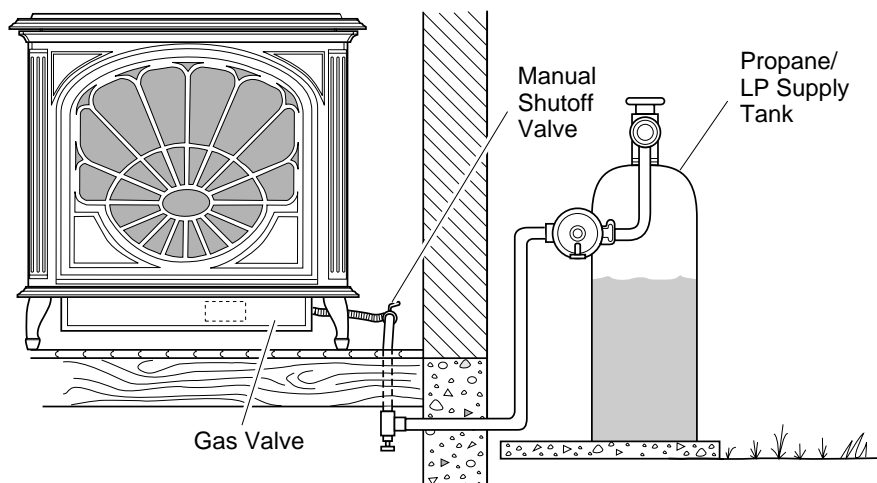
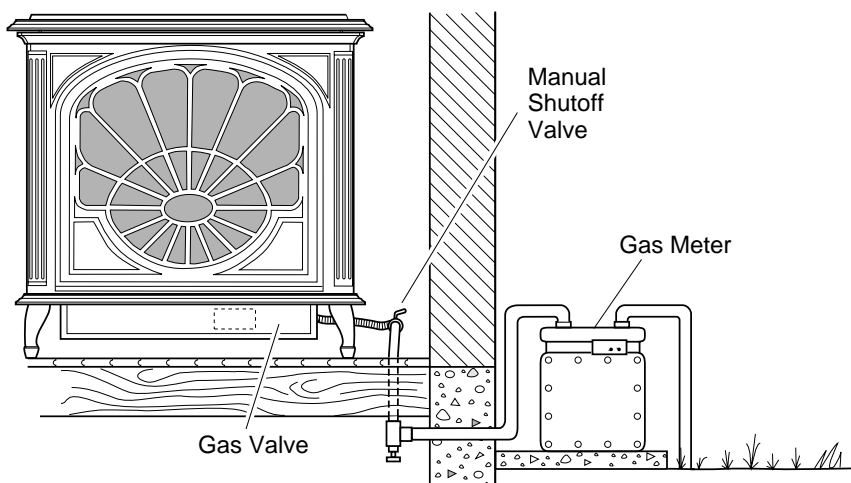

Figure 42 - Checking Gas Joints for Propane/LP Gas Burner System
Figure 43 - Checking Gas Joints for Natural Gas Burner System
3. Check all joints from propane/LP supply tank or gas meter to manual shutoff valve (see Figure 42 for propane/LP or Figure 43 for natural). Apply commercial leak test solution to all gas joints. Bubbles forming show a leak. Correct all leaks at once.
4. Check all joints from manual shutoff valve to thermostat gas valve (see Figure 42 for propane/LP or Figure 43 for natural). Apply commercial leak test solution to all gas joints. Bubbles forming show a leak. Correct all leaks at once.